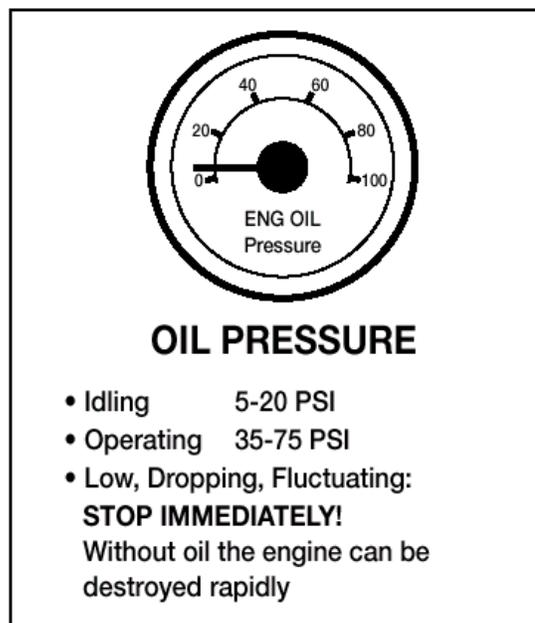

Figure 2.5
- ✓ Oil pressure. Should come up to normal within seconds after engine is started. See Figure 2.5